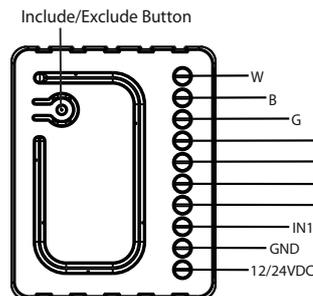

Figure 1. Terminals Description
- Refer to Figure 1. Terminals Description, and solder the stranded wire to the metal contacts of the RGBW strip.